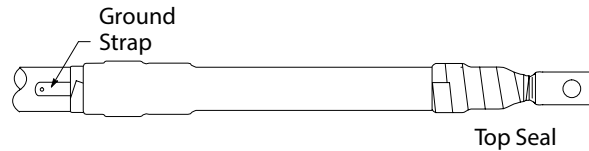

Figure 5
6. Apply top seal and bottom seal (bottom seals are optional to obtain a Class 1 termination) (Figure 5).